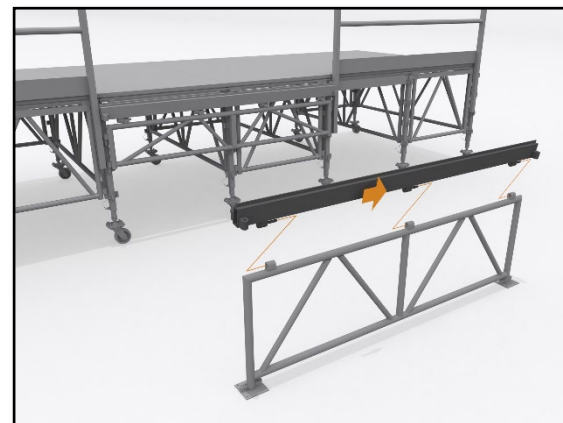

Fig. 42 – Primary Beam Type Two
- 9.5.10 Locate 1 off Primary Beam Type Two. Insert the connections into the holes in the top of Support Frame Type One. *Fig. 42 – Primary Beam Type Two*